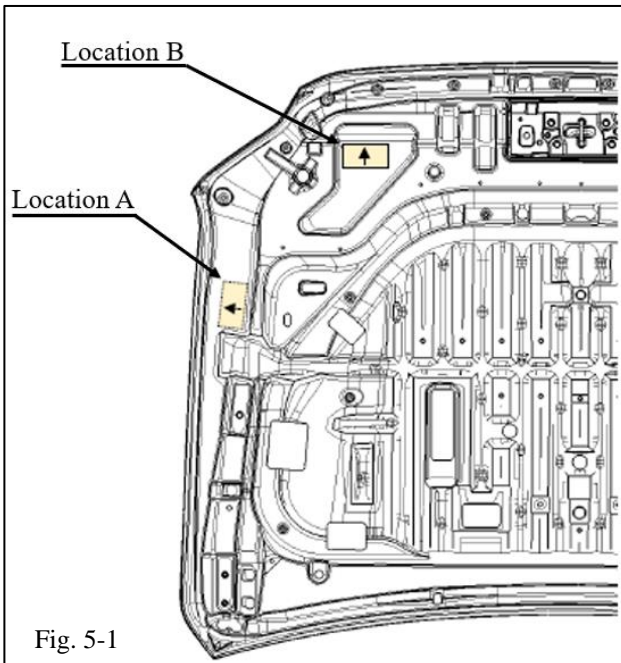

Fig. 5-1
- (a) Use a lint free cloth and a VDC-approved cleaner such as 3M Prep Solvent 70 or similar to clean the under hood for application location A or B (Fig. 5-1).
- (b) Orient label “upright” as indicated by arrows and apply the TRD air filter care label to the pre-cleaned area. (Fig. 5-1).